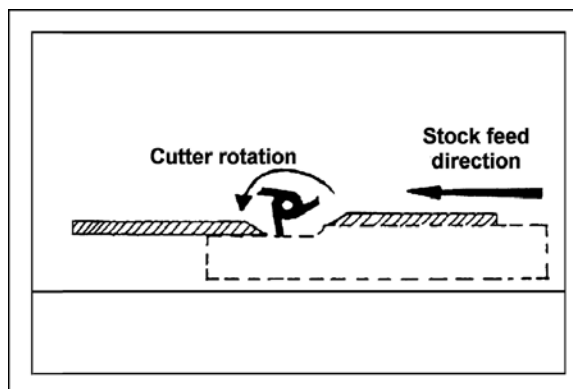

Figure 17
7. Turn the machine on and make sure the direction of the shaft rotation is correct. Looking down on the top of the spindle, the spindle should be turning counterclockwise as shown in Figure 17. If it is not, reverse any two incoming power leads.